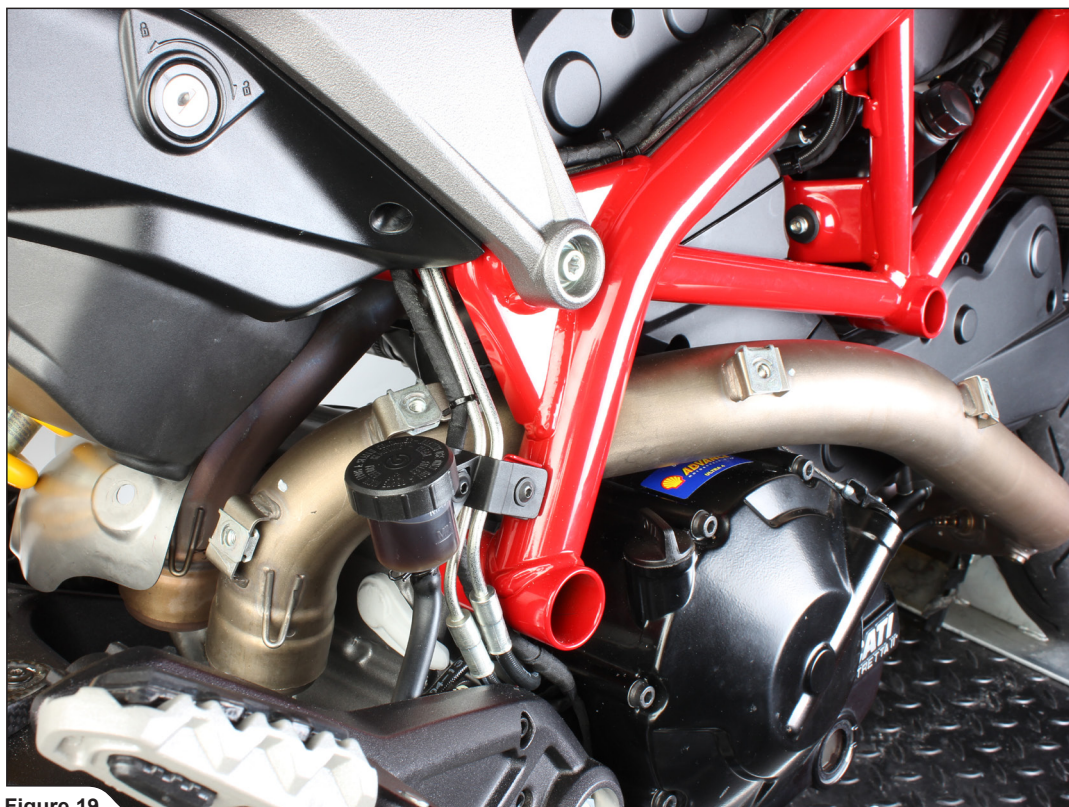

Figure 19
19. Partially remove the rear heat shield and remove the front heat shield (Figure 19).